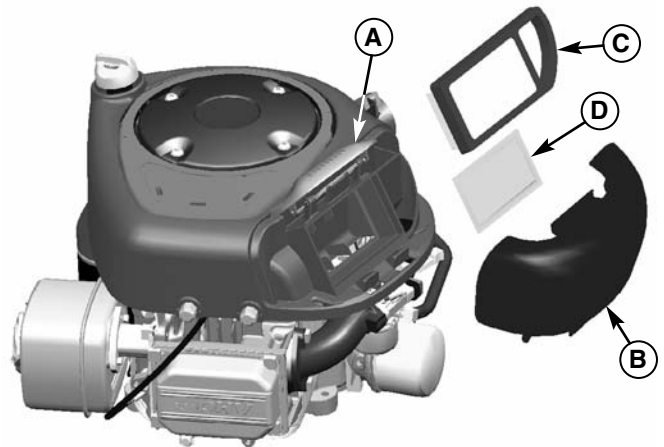

Figure 36. Air Filter Service - Briggs & Stratton Single Cylinder Models
2. Remove the cover (B). Remove the filter (C, Figure 36) and pre-cleaner (D).
3. Install the pre-cleaner (D) with the mesh side up. Install the filter (C) as shown.
4. Install the cover (B, Figure 36) making sure the tabs are inserted into their slots. Secure with the latch (A).